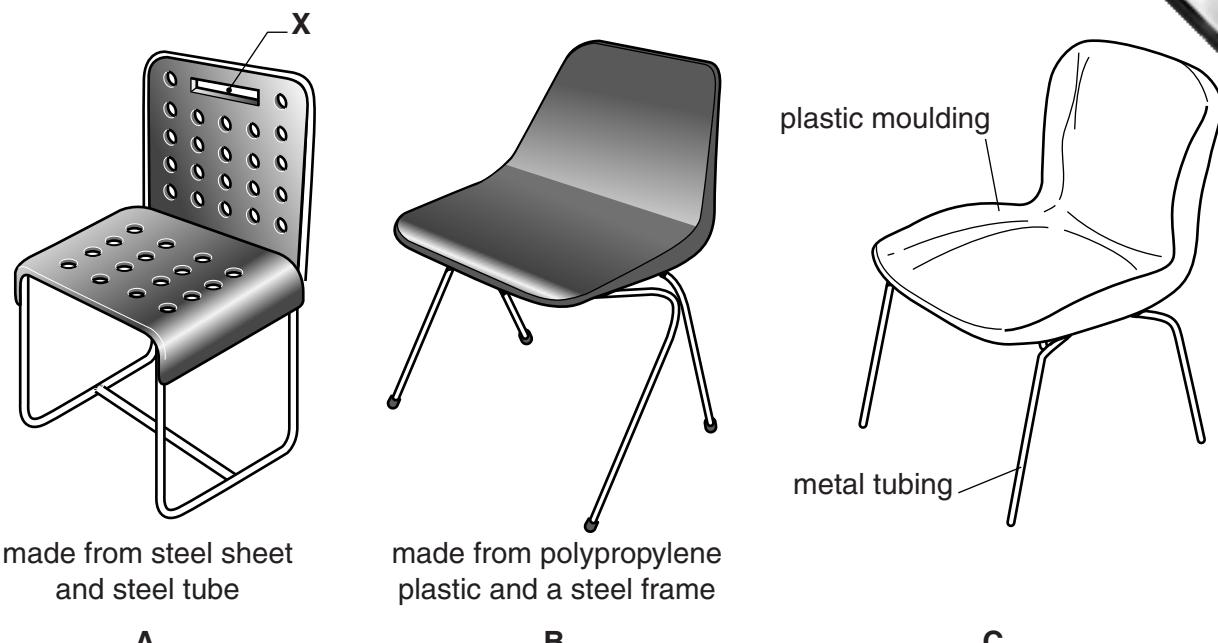

Fig. 5
- 5 Fig. 5 shows a range of designs for stacking chairs.